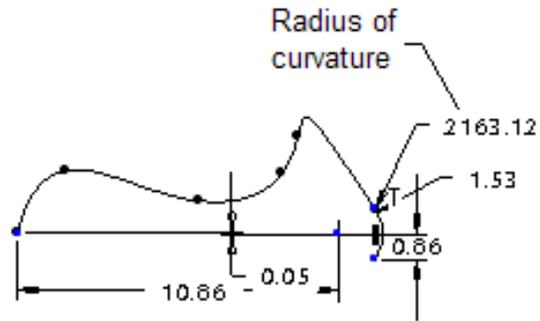

Figure 2-16 Radius of curvature
3. Press the middle mouse button to place the dimension. Figure 2-16 shows the radius of curvature dimensioning of a spline.